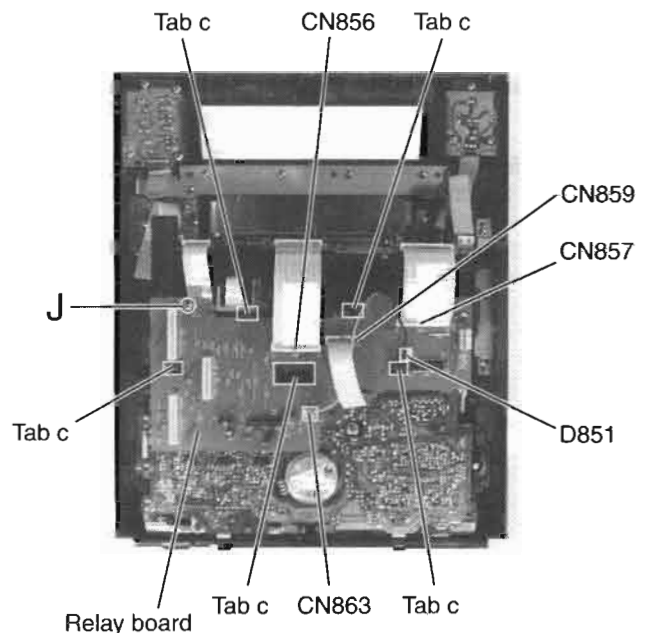

Fig.15
■ Removing the Relay Board (See Fig.15)